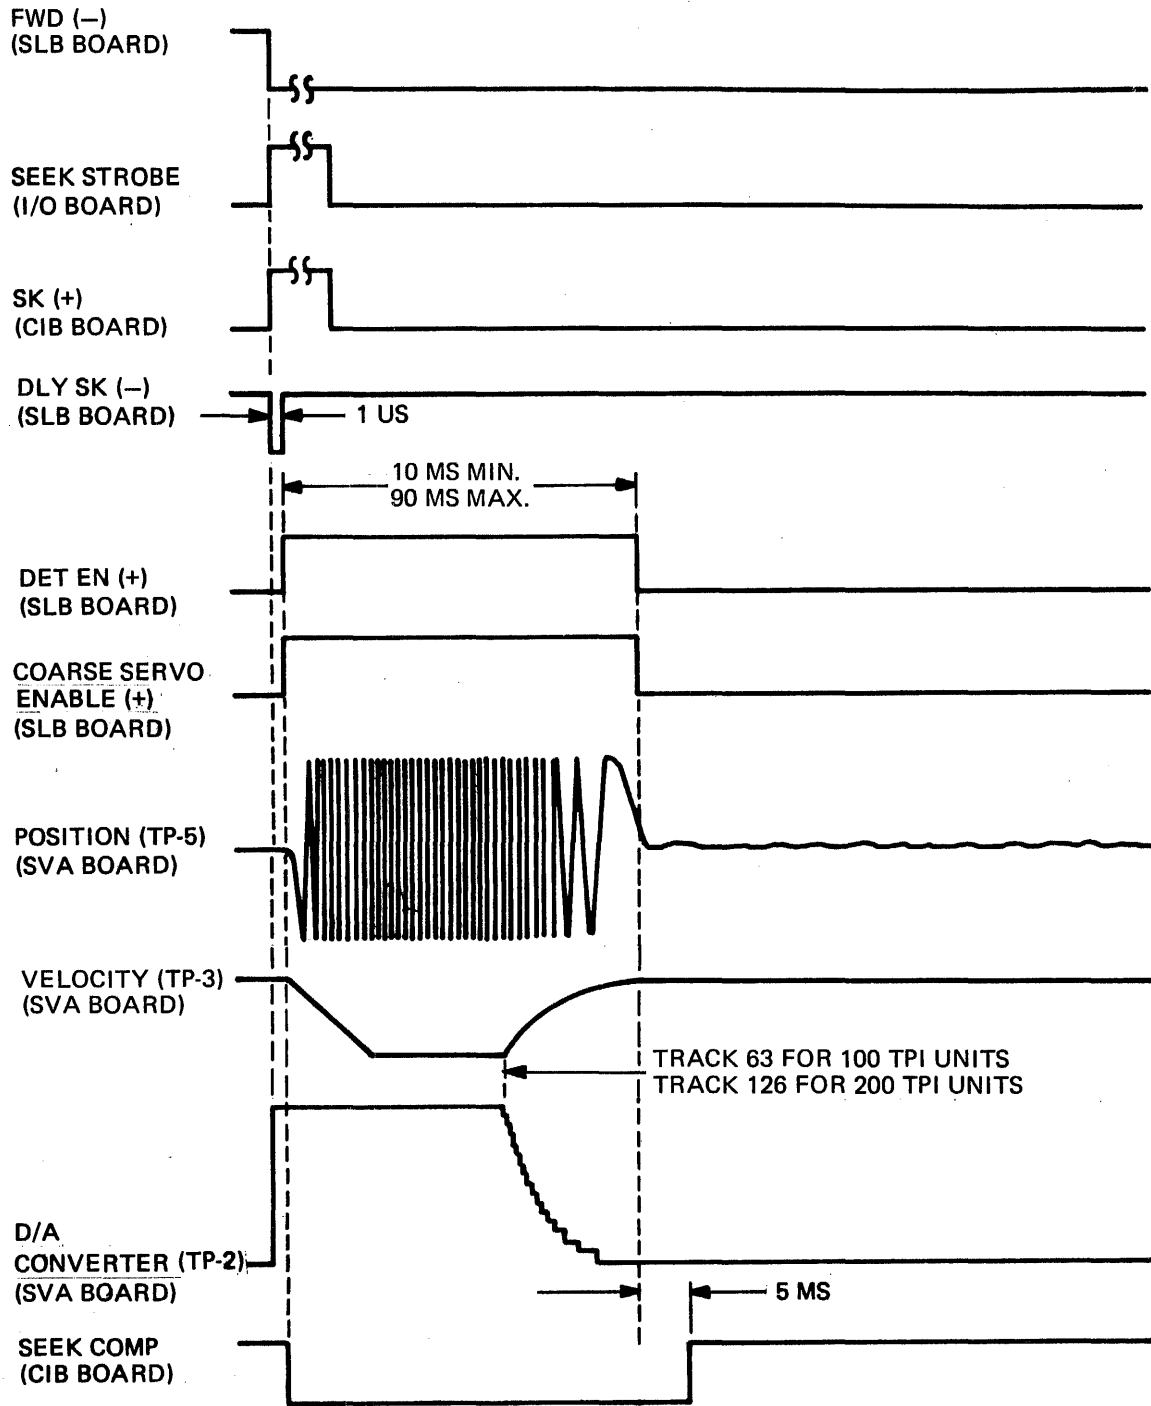

Figure 4-24. New Address Seek Operation Waveforms
4.5.7.3 DDAC Input. The SVA receives several inputs from the SLB. As described in the discussion of that circuit board, the difference figure obtained from subtracting the current binary in the CAR from that in the NAR is applied to a digital-to-analog converter. This difference signal, DDAC, is applied to the Velocity Ramp generator on the SVA. Note that the DIF 2 MSB signal is applied to the amplifier in parallel with the DDAC input. This signal constitutes the two most significant digits in the Difference Output. As long as the signal is high, the profile amplifier will be saturated, and the carriage will move forward (or backward) at maximum speed. When this input goes low, the output of the digital-to-analog converter will determine the speed at which the positioner moves the carriage toward the addressed track. The speed will decrease in steps, as shown in Figure 4-24, the timing diagram for the New Address Seek operation. A Digital-to-Analog converter in conjunction with a ramp generator are used to decrease the Servo Amp output exponentially.